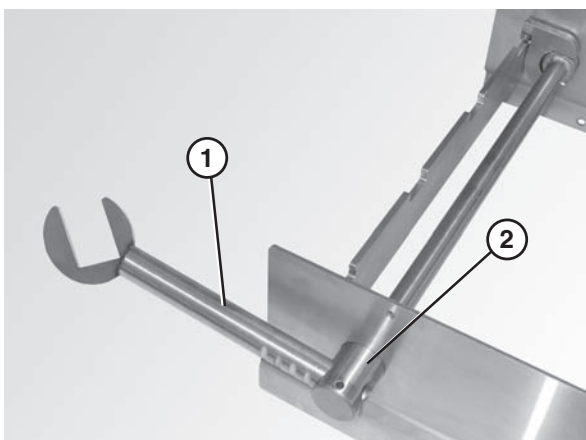

Figure 26
3. Attach nose bar idler shaft hands (**Figure 26, item 1**) to the tip up shaft (**Figure 26, item 2**).